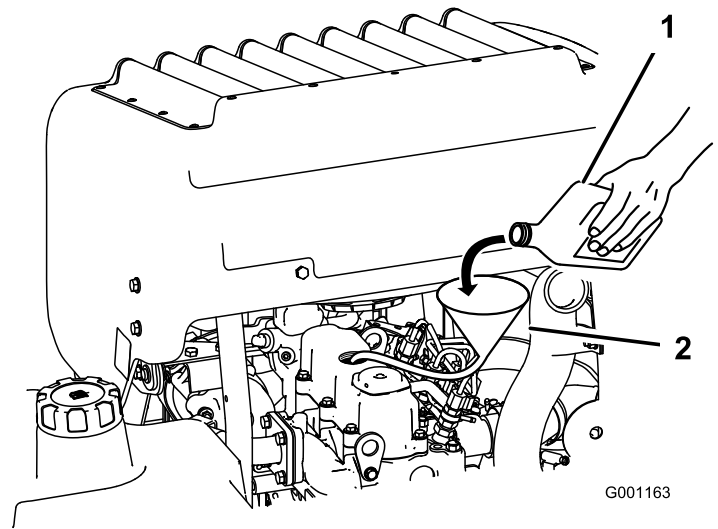

Figure 44
3. To add oil to the engine, locate and use a hose and funnel for adding oil (Figure 44).